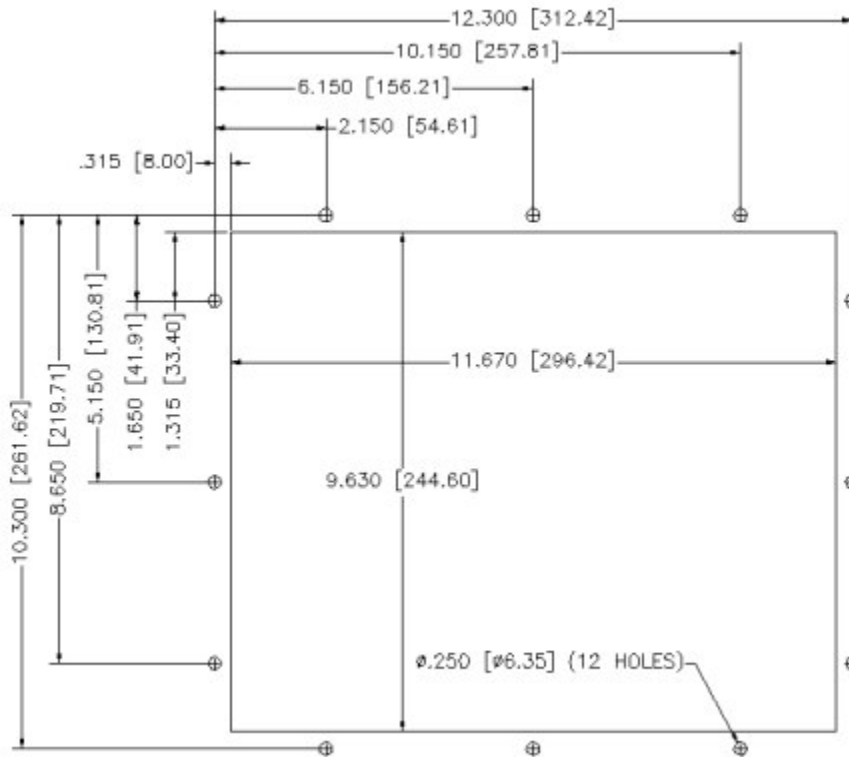
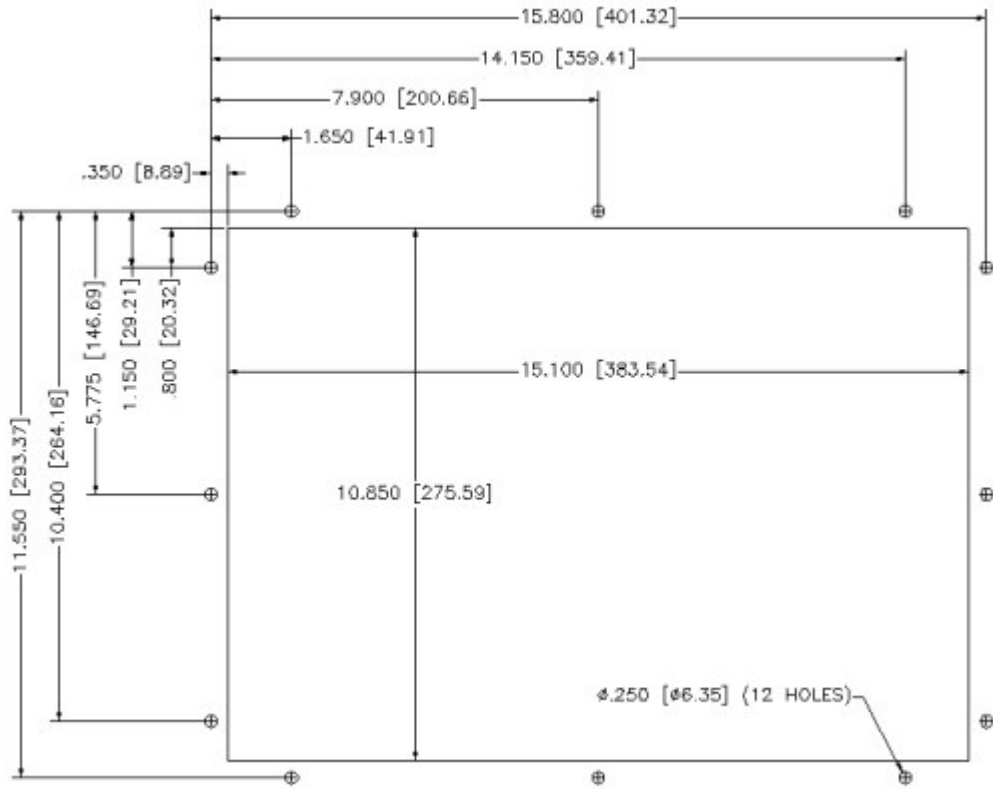
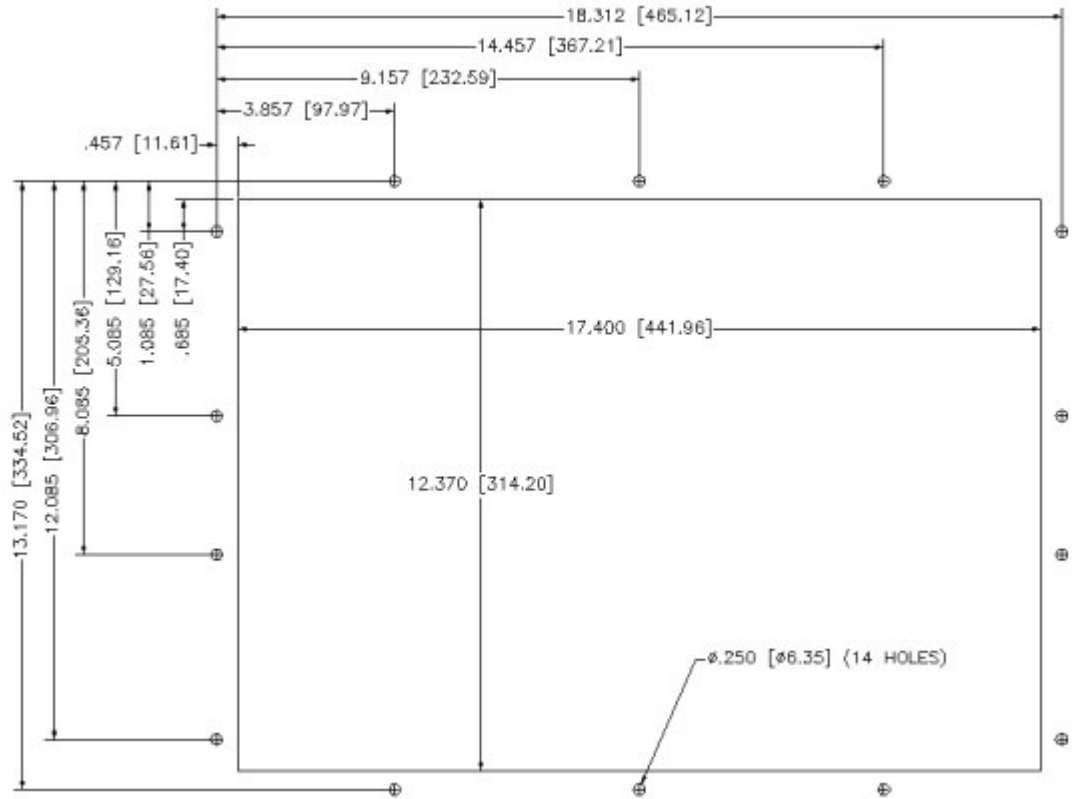

Figure 2-1. 3612T System Cutout Dimensions (inches [mm])
Figure 2-2. 3612KPM(T) System Cutout Dimensions (inches [mm])
Figure 2-4. 3615KPM(T) System Cutout Dimensions (inches [mm])
2. Create a cutout in the enclosure (see Figure 2-1, Figure 2-2, Figure 2-3, and Figure 2-4 in *System Cutout Dimensions*).